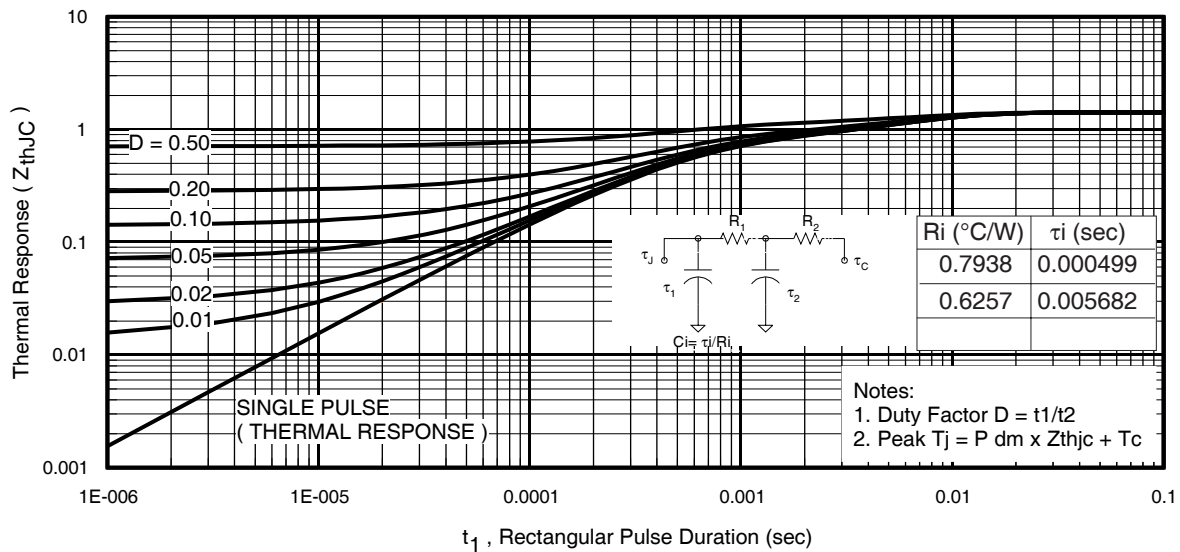
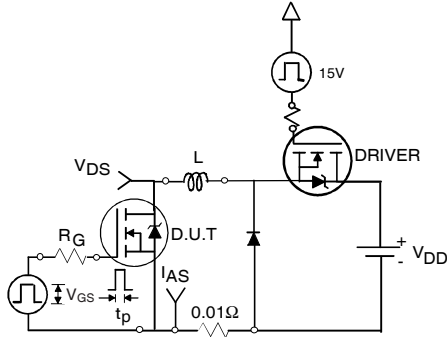

Fig 11. Maximum Effective Transient Thermal Impedance, Junction-to-Case
Fig 12a. Unclamped Inductive Test Circuit
3. Equation below based on circuit and waveforms shown in Figures 12a, 12b.
$Z_{thJC}(D, t_{av})$ = Transient thermal resistance, see figure 11)
- ① Repetitive rating; pulse width limited by max. junction temperature. (See fig. 11).
- ② Limited by T_{Jmax} , starting $T_J = 25^\circ\text{C}$, $L = 0.197\text{mH}$, $R_G = 25\Omega$, $I_{AS} = 32\text{A}$, $V_{GS} = 10\text{V}$. Part not recommended for use above this value.
- ③ Pulse width $\leq 1.0\text{ms}$; duty cycle $\leq 2\%$.
- ④ C_{oss} eff. is a fixed capacitance that gives the same charging time as C_{oss} while V_{DS} is rising from 0 to 80% V_{DSS} .
- ⑤ Limited by T_{Jmax} , see Fig.12a, 12b, 15, 16 for typical repetitive avalanche performance.
- ⑥ This value determined from sample failure population. 100% tested to this value in production.
- ⑦ When mounted on 1" square PCB (FR-4 or G-10 Material). For recommended footprint and soldering techniques refer to application note #AN-994
- ⑧ R_θ is measured at T_J approximately 90°C